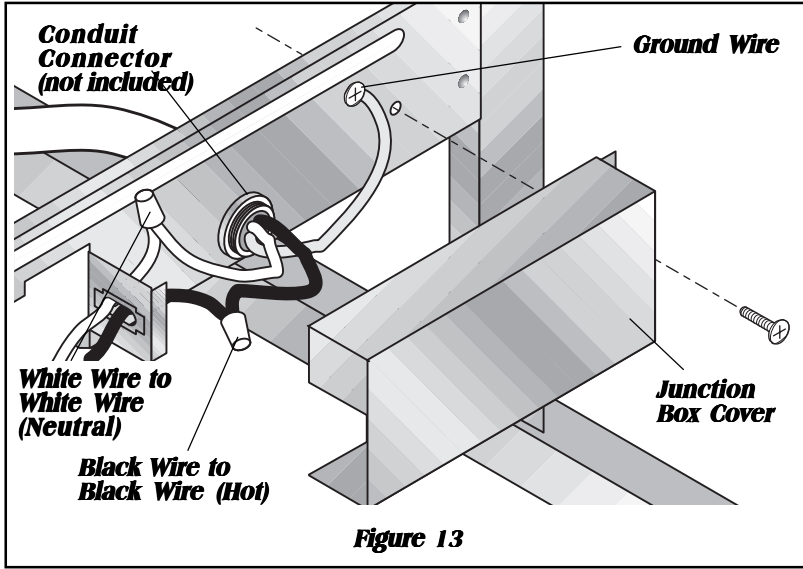

Figure 13
3. Inside junction box, attach ground wire under head of grounding screw and tighten. See Figure 13.
5. Replace junction box cover. See Figure 13.